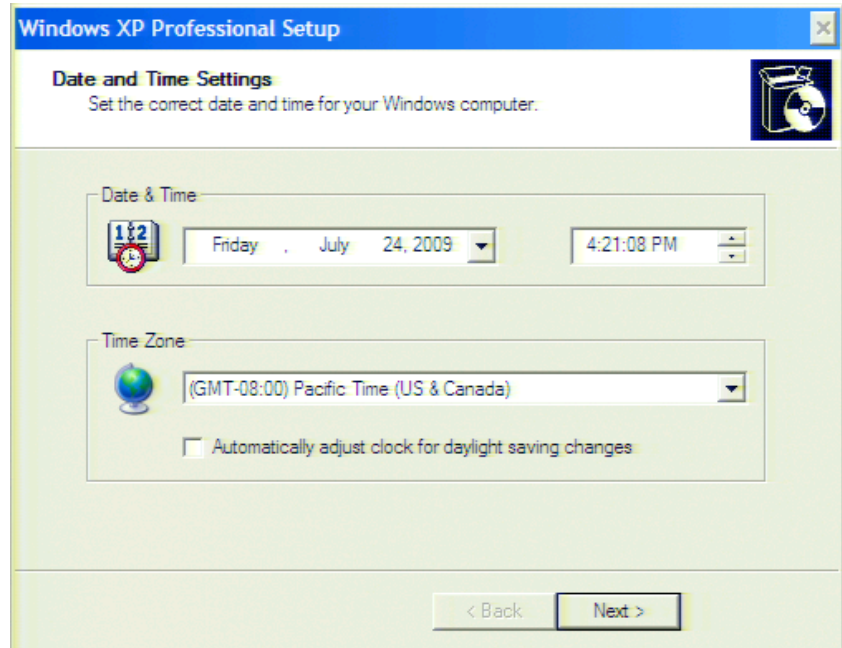

Figure 10 Date and Time Setting dialog box
Step 6. In the next dialog box, set the date and time for your Windows. Then, click the **Next>** button (Figure 10).